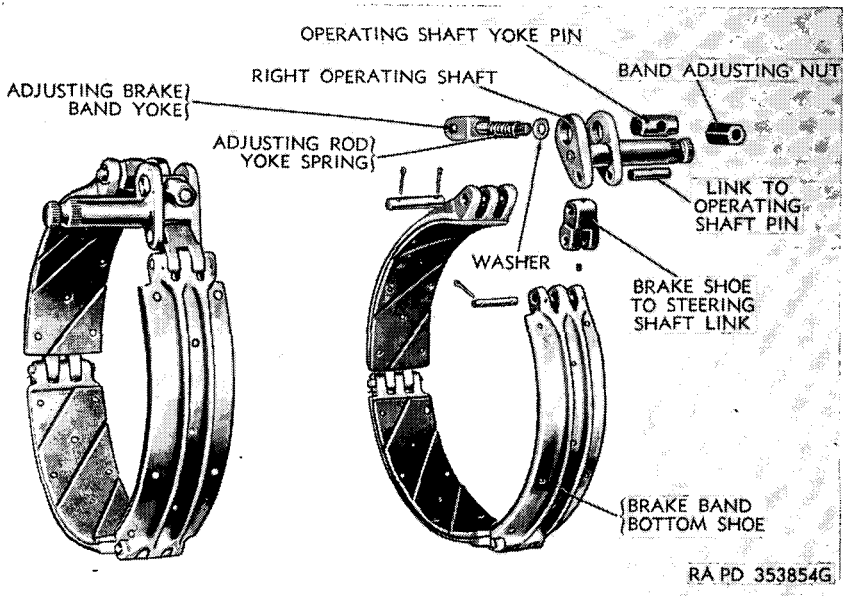

Figure 122. Steering brake band assembly.
- (1) *Remove differential opening cover.* Remove 18 screws holding differential opening cover to hull front plate. Attach hoist to lifting handles on front cover. Remove cover and gasket and discard gasket.
- (2) *Remove differential case cover.* Remove 18 screws that hold differential case cover to differential housing. Lift off cover and discard gasket.
- (3) *Remove band adjusting nut and link pin.* Back off adjusting nut and remove nut. Slide adjusting brake band yoke out of operating shaft yoke pin and remove tension spring and washers; then remove link to operating shaft pin. Remove cotter pin and slide out pin holding link to brake shoe (fig. 122).
- (4) *Remove brake band assembly.* Grasp brake band assembly with both hands and pull out of housing, permitting shoes to rotate around brake drum.
- (5) *Remove other brake band assembly.* Repeat (3) and (4) above for removal of other brake band assembly.
- (2) *Install link to shoe pin.* Line up pin holes in steering brake link and holes in shoes. Slide link to shoe pin into position and install cotter pin (fig. 122).
- (3) *Install band adjusting nut.* Place steering yoke to shaft pin in position in operating shaft. Slide tension spring and washer over yoke and push yoke through operating shaft yoke pin. Install band adjusting nut on end of yoke.
- (4) *Install other brake band assembly.* Repeat (1) through (3) above for other brake band assembly.
- (5) *Adjust brakes.* Refer to paragraph 162.
- (6) *Install differential case cover.* Place a new differential case cover gasket on differential case. Coat gasket with gasket cement. Place cover over gasket and install 18 screws and washers holding cover to case. Using a torque wrench, tighten the five $\frac{1}{2}$ -inch screws to 80–85 foot-pounds torque and the thirteen $\frac{7}{16}$ -inch screws to 45–50 foot-pounds torque.
- (7) *Install differential opening cover.* Place a new gasket over edge of hull opening, attach hoist to cover, and lower into position on front of hull. Line up screw holes with drift punch and install 18 cover attaching screws. Remove hoist. Using a torque wrench, tighten screws to 80–85 foot-pounds torque.